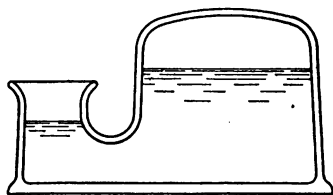

FIG. 13
16. Why should a pneumatic inkstand not be placed in the sunlight (Fig. 13)?